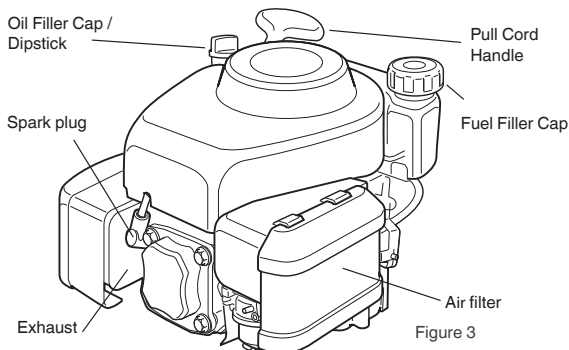

Figure 3
- Put Mountfield 4-stroke, or an SAE 10W-30 oil, in the oil filler (Figure 3). Do not overfill. The oil level should not be above the MAX mark on the dipstick. The oil tank capacity is 0,55 litre or 20 fluid oz of Mountfield oil, part number MX855, is available from any Mountfield stockist or B&Q store.